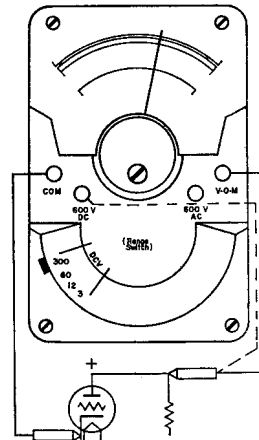

FIGURE 4. DC Voltage
**3.02** The DC voltage ranges are 0-3, 12, 60, 300 and 600 volts and are read as follows (see Figure 4):